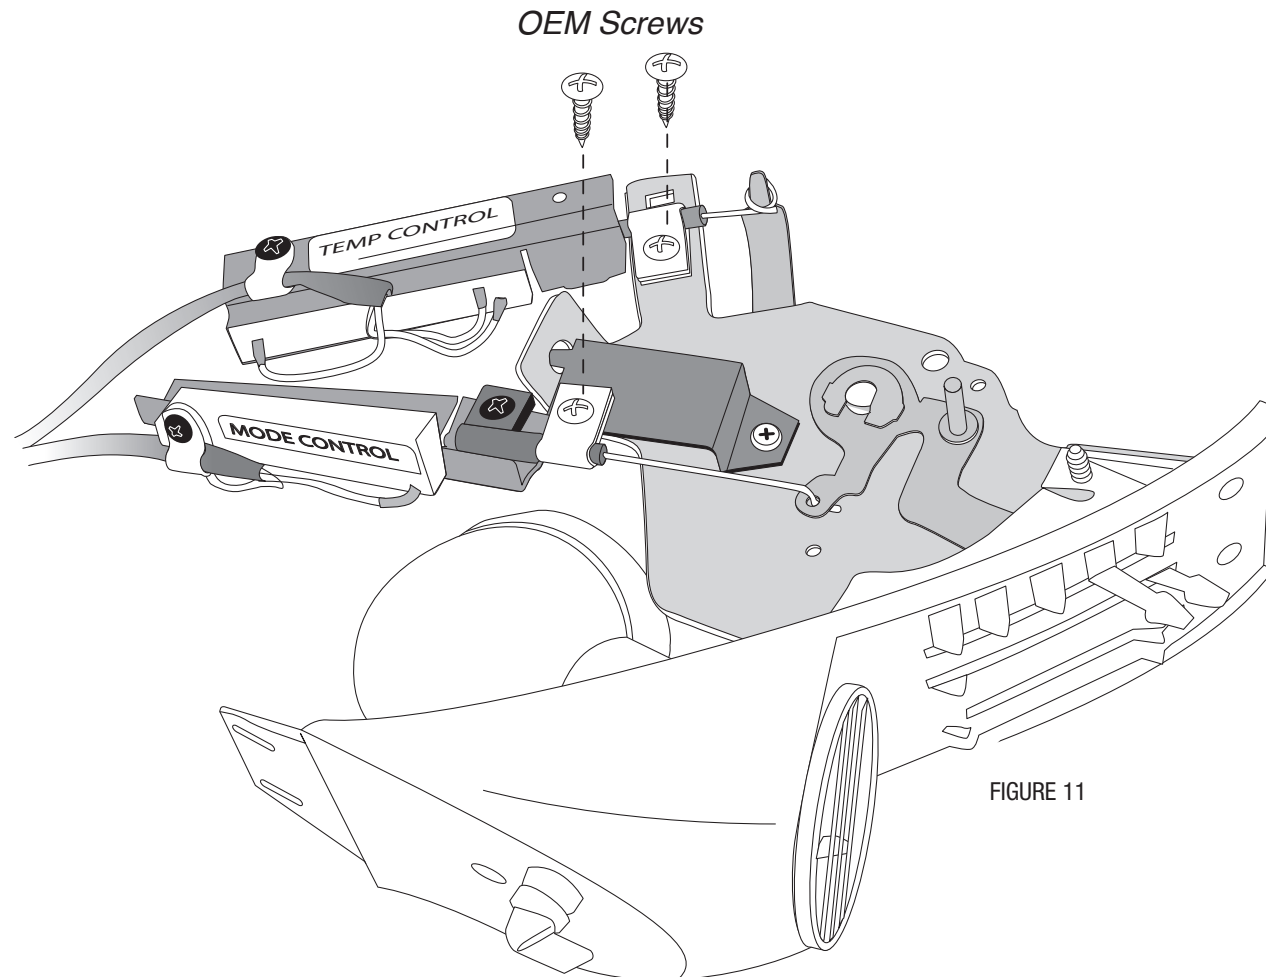

FIGURE 11
Step 2) Slide the supplied cable clamps over the end of both of the cables (see figure 10) and then route the wire ends of the new cables over the appropriate lever ends (one is a “dog-leg” end and the other is a “loop”, as shown in figure 11). Secure the cables to the mounting points (one to the new bracket and one to the control head) using the #8 - 20x3/8" screws.